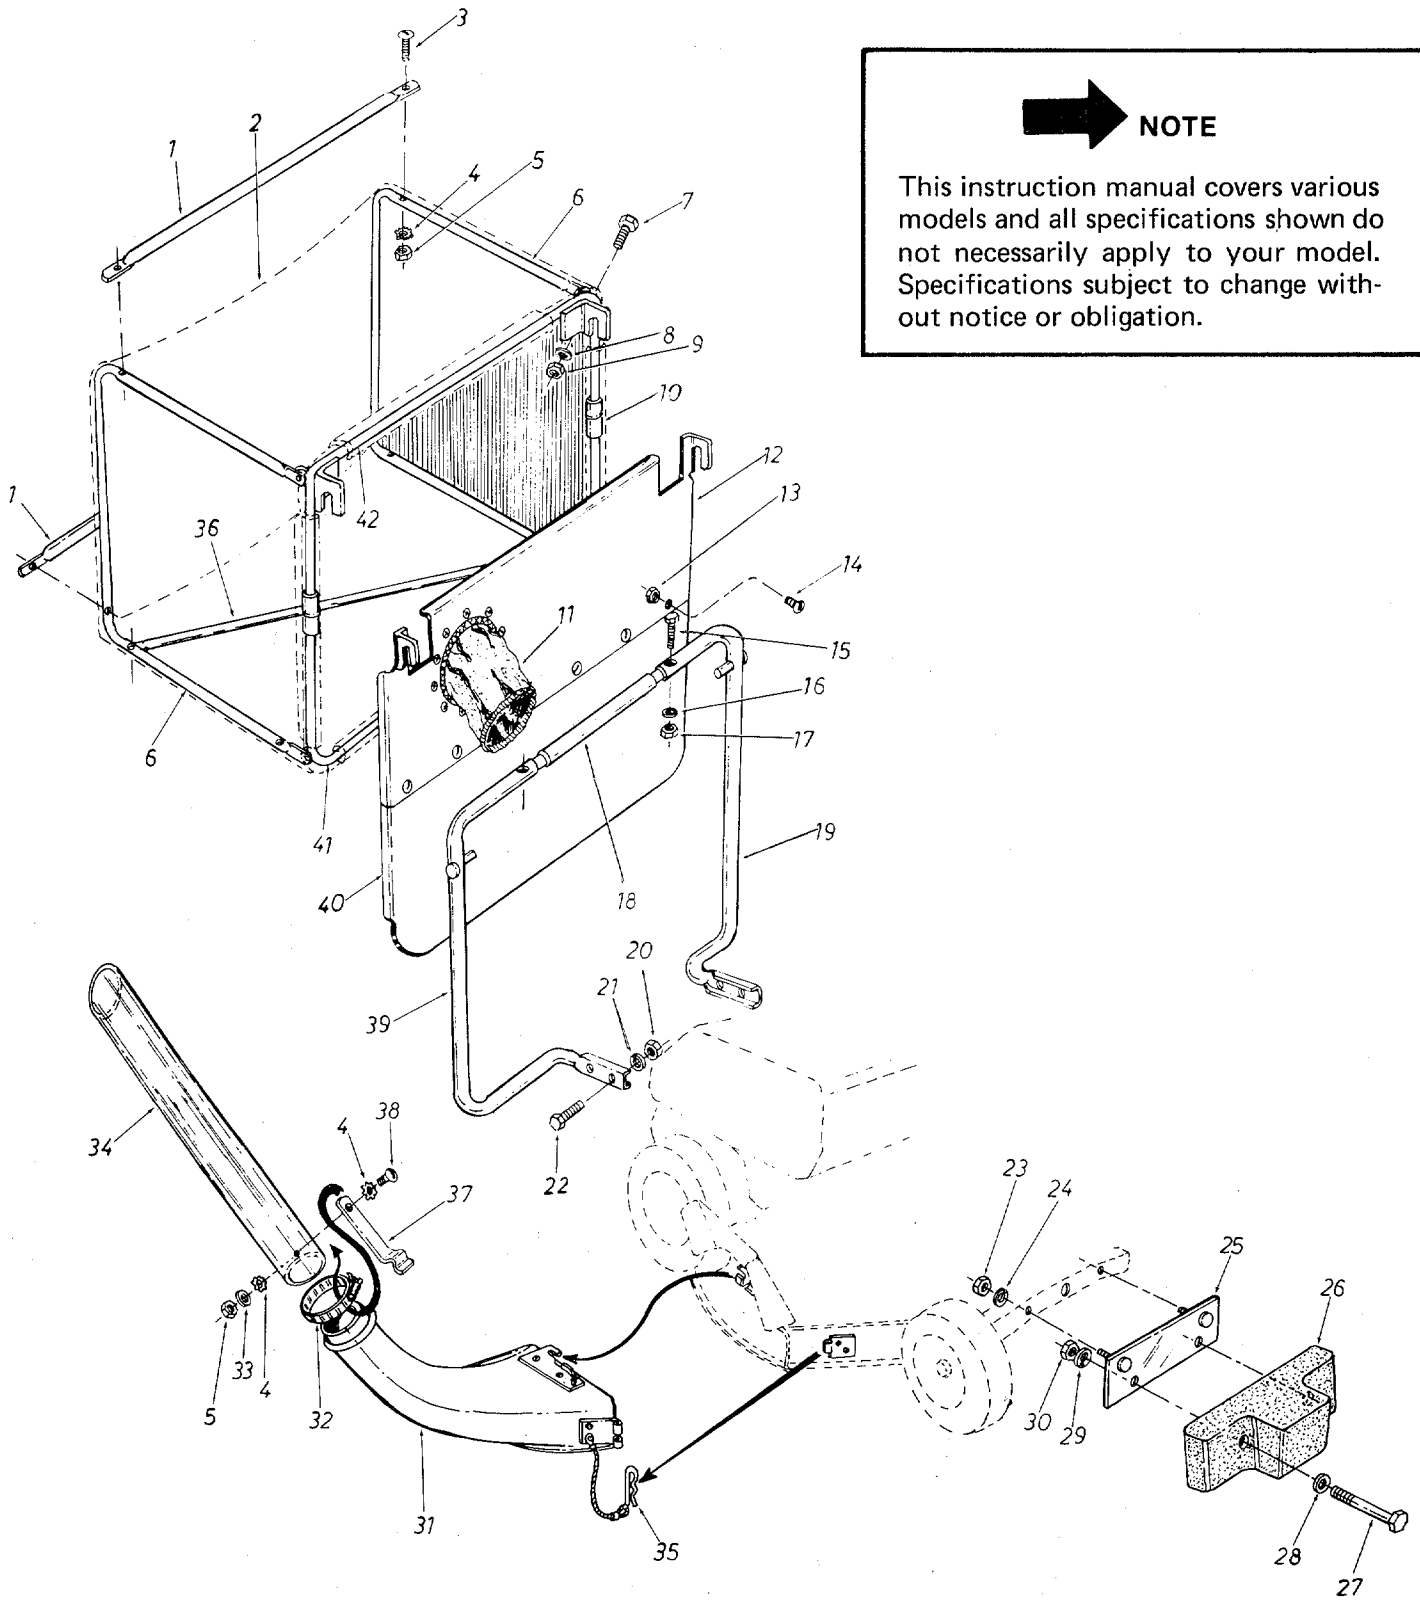

FIGURE 18
19. Hook grass bag assembly in place on bag holder, over weld pins. See figure 18. When grass bag has been filled, back rider up to dumping area and simply lift up on handle brace to dump grass clippings.